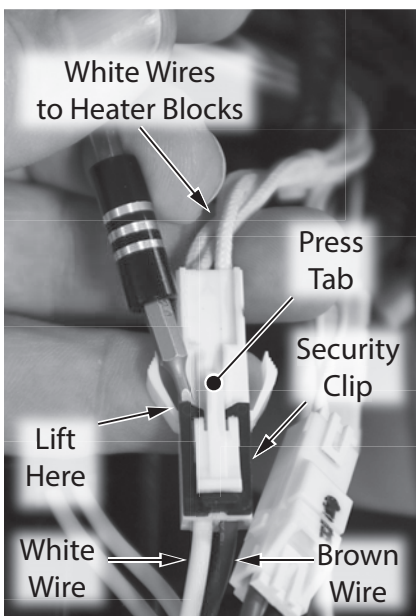

Figure 33 - Disconnect long heater block wiring from control board
- 12 Locate the wire connection between the long heater block assembly and the reverse side of control board. To disconnect, gently remove the security clip with a mini pick or fingernail. Push tab as shown in Figure 33. Separate the harnesses. Place security clip aside in a safe place for reinstallation.